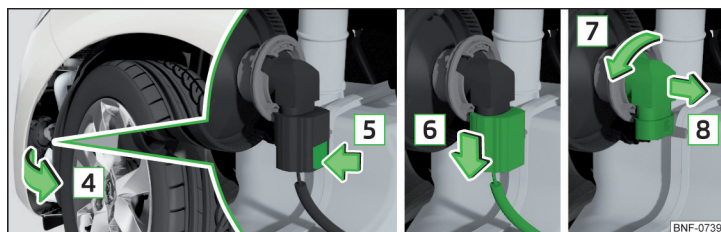

Fig. 145 Changing a bulb
- Open out the wheel house trim in the direction of arrow **[4]** » Fig. 145.